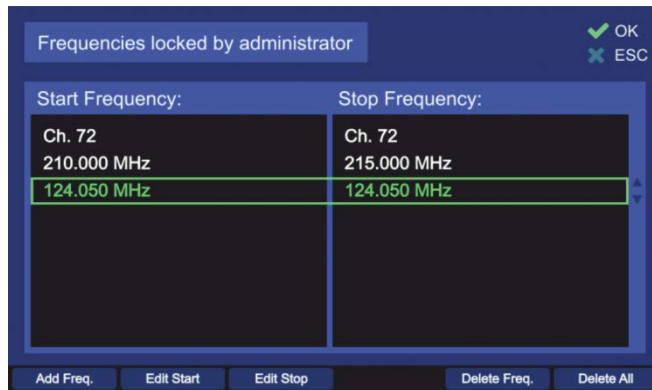

Fig. 78 Locked frequencies. Administrator view
- 1) Press the “See locks” hotkey in the “Freq. Info” dialog. The window, which is shown in Fig. 78 appears.